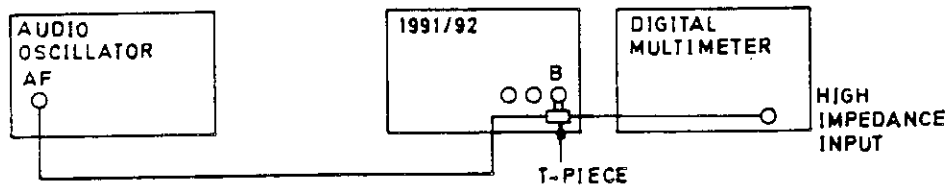

Figure 6.30 - Connections for Channel B Sensitivity PVP (II)
- a. Connect the test equipment as shown in Figure 6.30